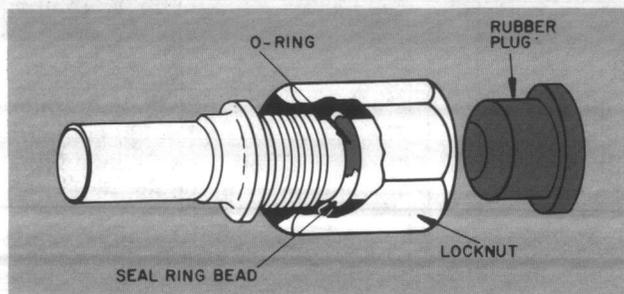

Fig. 5 — Carrier Compatible Fitting
1. Loosen locknut on Compatible Fitting one turn. Do not remove. See Fig. 5.
1. Remove locknut, and rubber O-ring from inside of Compatible Fitting. Refer to Fig. 5.